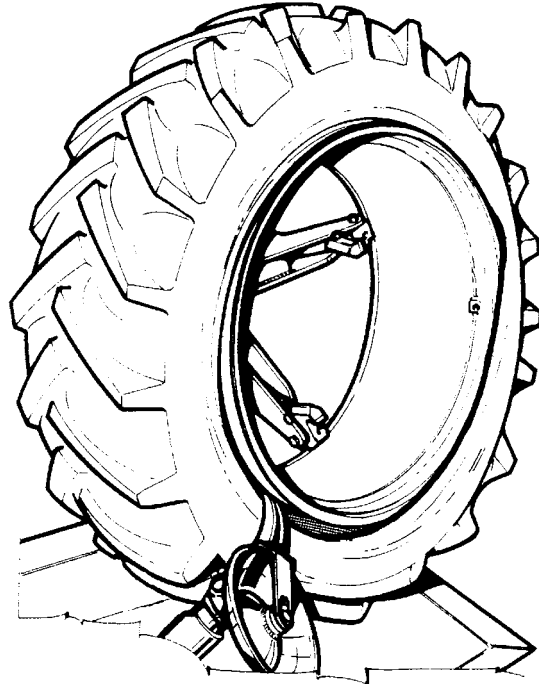

Fig.46
7. Turn the chuck counterclockwise until the outer bead is completely demounted (fig.46).